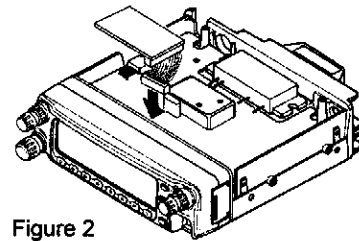

Figure 2
- Referring to Figure 2, locate the unused 12-pin connector just inside the front panel. Plug the FTS-22's cable into the connector.
- Use two of the supplied 12-mm (1/2-inch) machine screws to connect the mating end of the CT-25L extension cable (the end with flat contacts) over the contacts on the front of the transceiver body, so that the cable exits the connector toward the center of the transceiver body. See Figure 2.